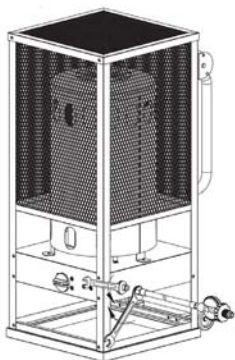

Figure 5
6. Use 2 spanner wrenches to connect the regulator to the main housing (Fig. 5).